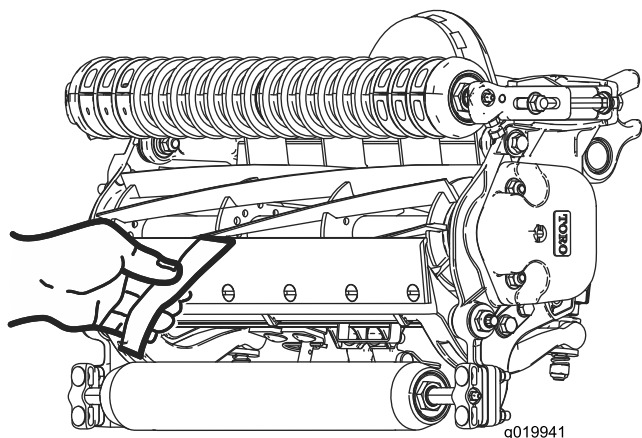

Figure 20
2. Test the cutting performance by inserting a long strip of cutting performance paper (Toro part number 125-5610) between reel and bedknife, perpendicular to the bedknife (Figure 20). Slowly rotate the reel forward; it should cut the paper.